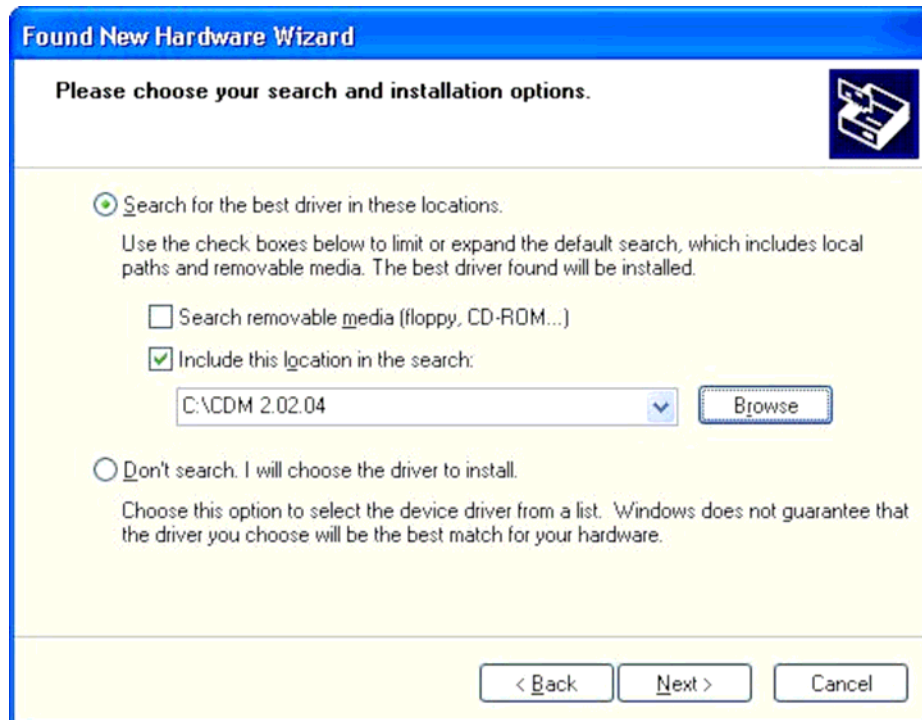

Figure 2.3
- Select "Search for the best driver in these locations" and enter the file path in the combo-box ("C:\CDM 2.02.04" in Figure 2.3 below) or browse to it by clicking the browse button. Once the file path has been entered in the box, click next to proceed.